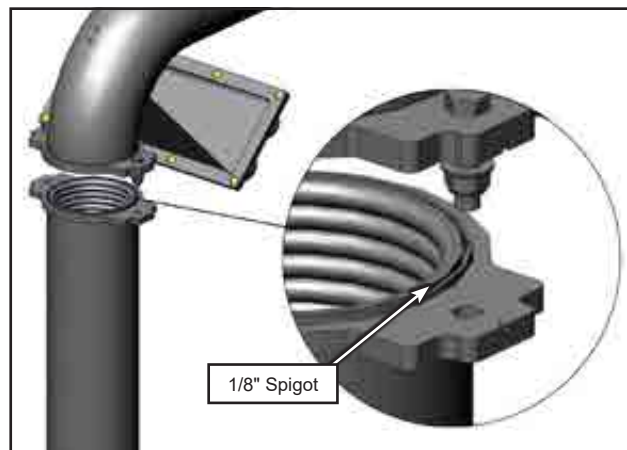

Figure 1.15 - Spigot Location
- d. There is a 1/8" (3.2 mm) spigot on the vertical pipe that the elbow will lock over top of. Refer to *Figure 1.15*.